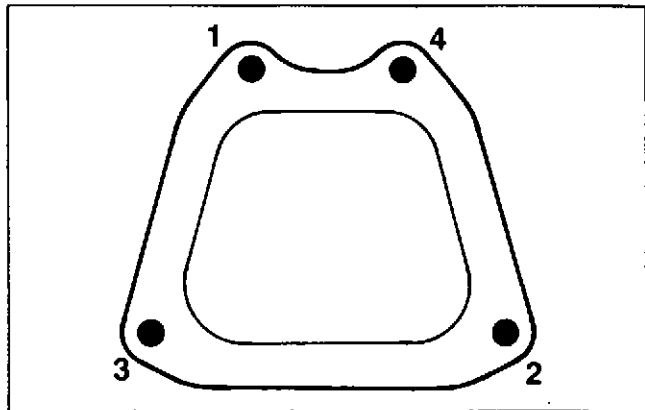

Figure 11-23. Valve Cover Fastener Tightening Sequence.
7. Install the valve cover. Torque the hex flange screws to **3.4 N·m (30 In. lb.)** using the sequence shown in Figure 11-23.